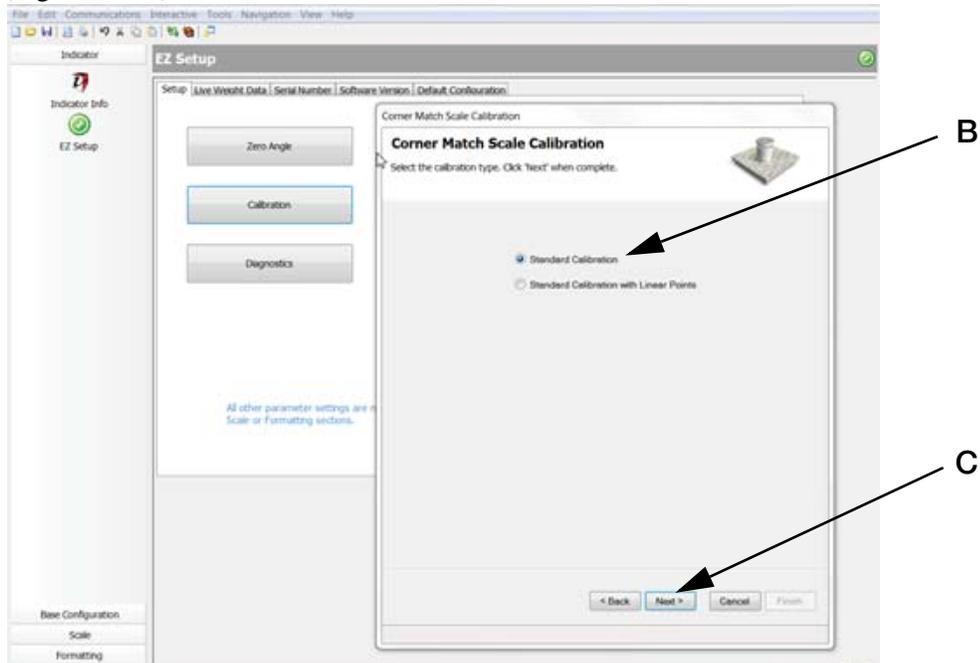

Figure 5-4. Enter Calibration
3. Select **Standard Calibration** (Figure 5-4 B).
4. Press **Next** (Figure 5-4 C).